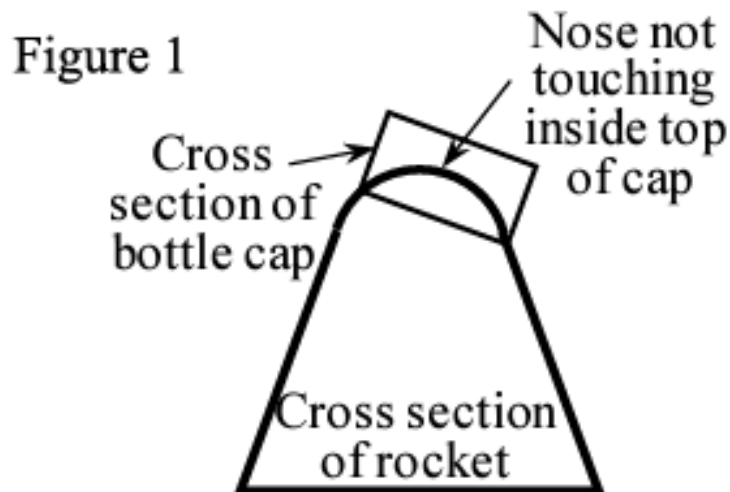

Figure 2
- e. Fins and other parts added to the bottle must be 5 cm or higher above the level of the bottle's opening, to ensure rockets fit on the launcher (see Figure 2). Cross section of bottle cap Nose not touching inside top of cap Cross section of rocket